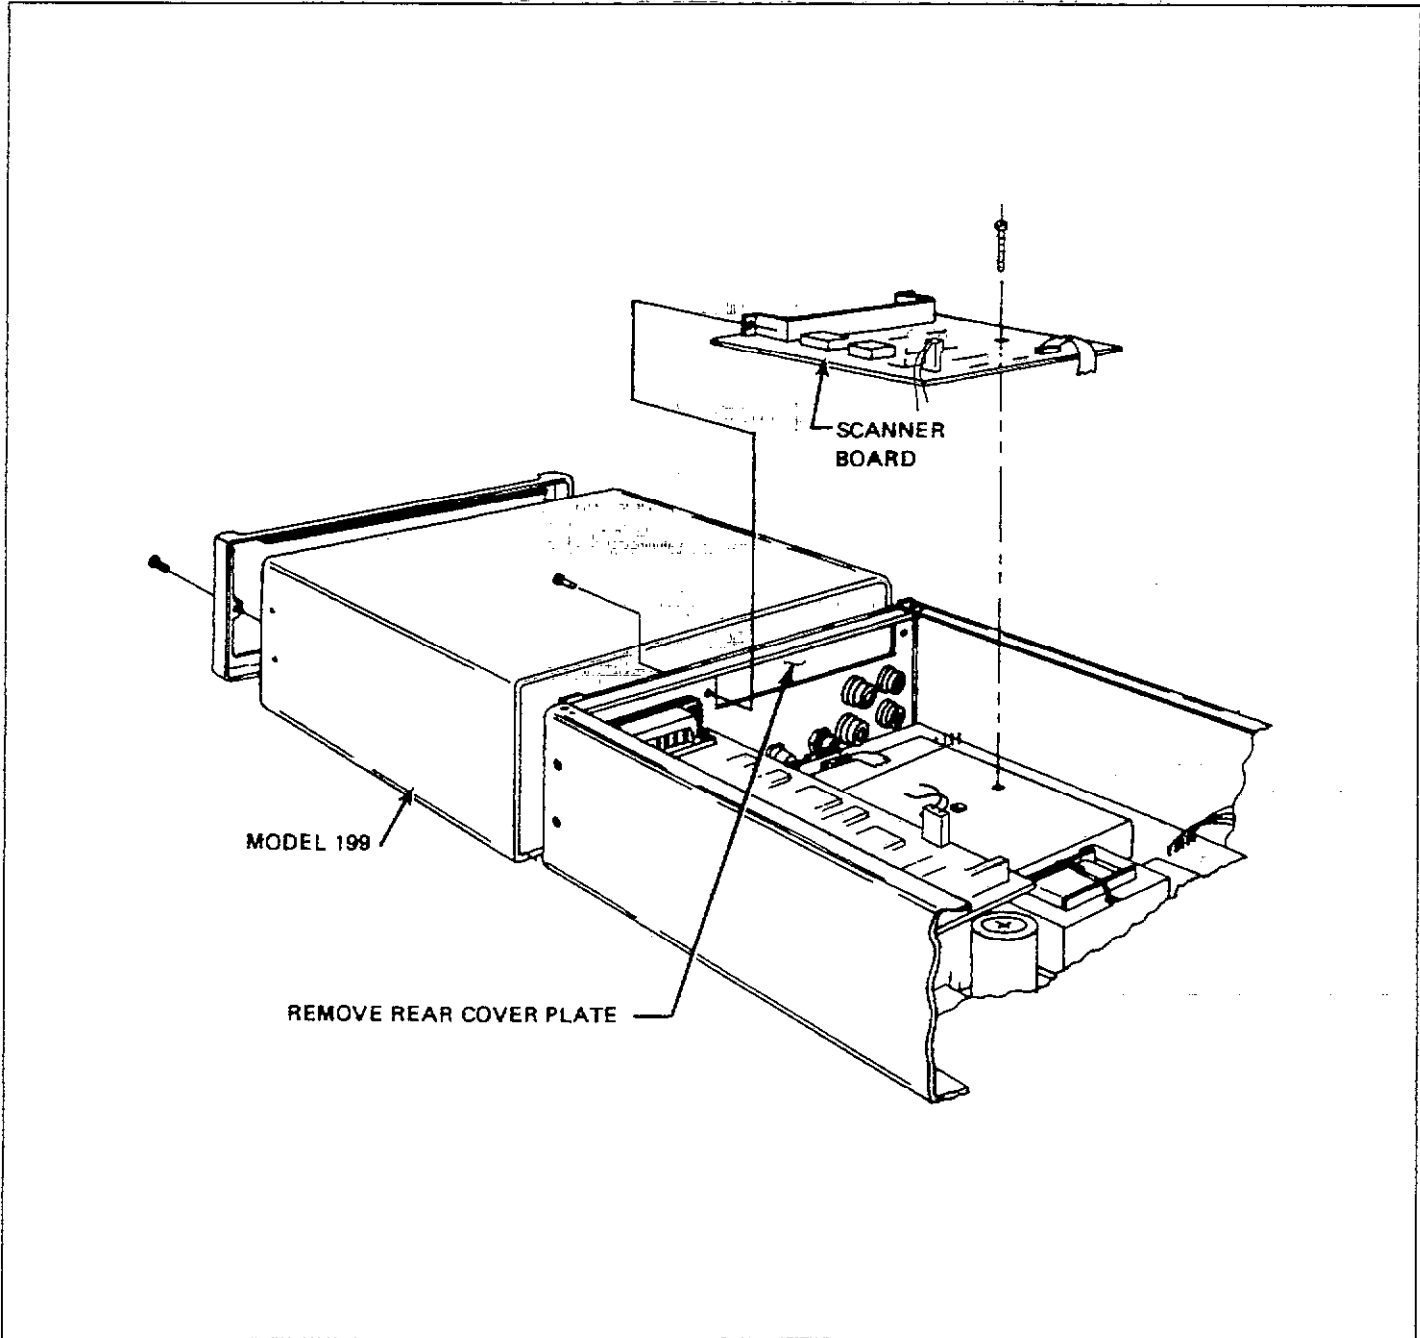

Figure 6-12. Scanner Installation
Using Figure 6-12 and 6-13, install the Model 1992 Scanner as discussed below:
5. Orient the scanner card above its final location (see Figure 6-12), and plug the ribbon cable (P1) into the mating receptacle (J26) on the analog board (see Figure 6-13). The red mark on the ribbon cable must be oriented on the right as viewed from the front of the unit.